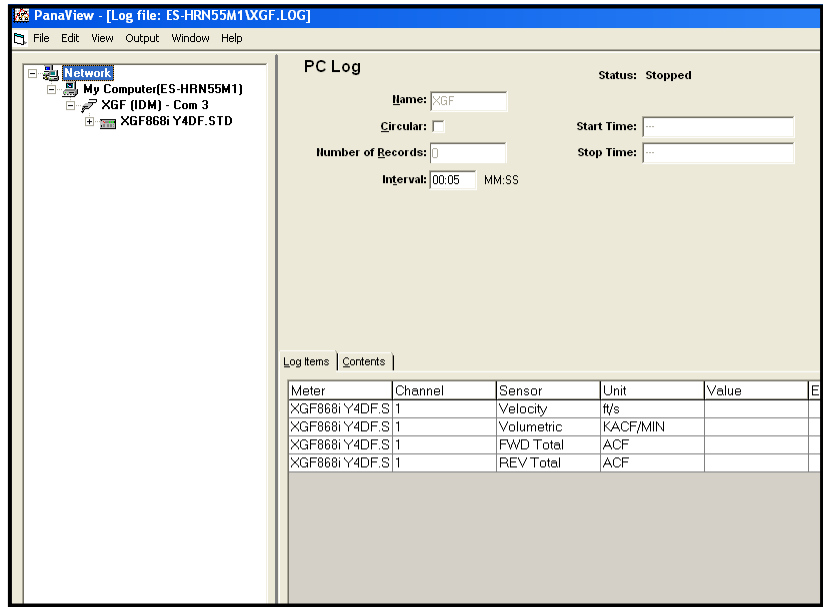

Figure 18: PC Log Window
6. At the resulting *PC Log* window shown in *Figure 18* below, place a check mark in the text box to create a *circular log*, or leave this box empty to create a linear log.
7. Enter a sampling *interval* in the text box shown in *Figure 18* above.